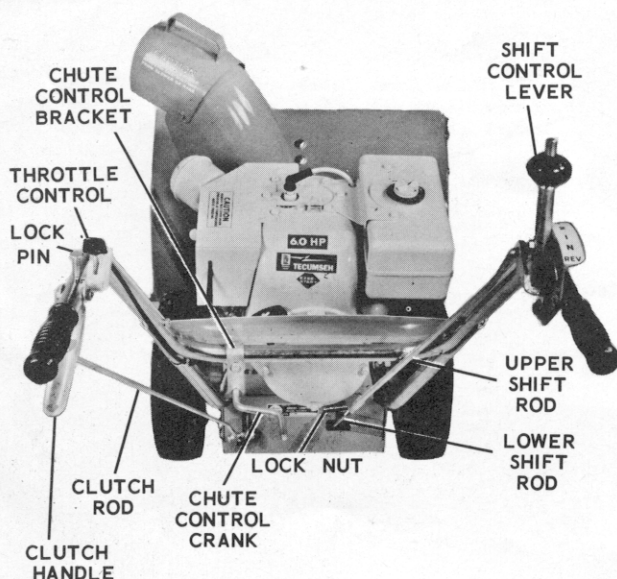

Figure 1
c. Remove the four bolts from the lower portion of the upper handle bar and slide the upper handle bar in place between the curved portions of the lower handle bars (figure 1).
a. Position the shift control (figure 1) on the
inside of the handle bars on the right hand side so that the holes in the control line up with the holes in the handle bar. Fasten the control to the handle bar with two hex head cap screws and lockwashers (figure 1).
a. Pull up on the lower shift rod which projects from the rear of the engine mounting frame (figure 1). Screw the threaded portion of the upper shift rod over the lower shift rod.
b. Slide the straight end of the clutch rod through the ball joint mounted on the clutch arm (figure 5) and place the bent end of the rod through the hole in the clutch operating handle (figure 1).
a. Slide the chute control rod through the hole in the bracket (figure 1) mounted on the left hand side of the handle bar.
a. Using the two self-tapping screws provided, fasten the throttle control lever (figure 1) to the inside of the left hand handle bar.